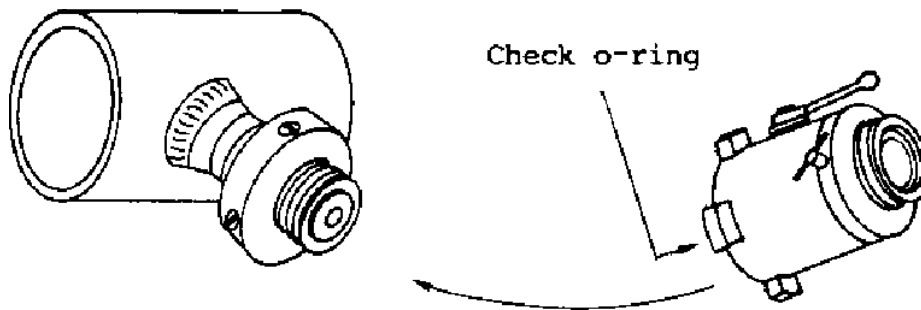

Fig. 5
8. Check and inspect the O-ring on the "bottom" of Service Valve (fig. 5).